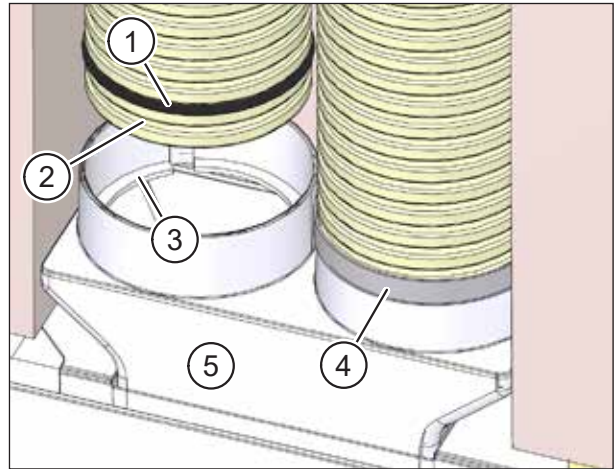

Fig. 28: Fixing a flexible pipe connection with sealing tape
- ▶ Insert the sealing rings (item 1 in Fig. 28) into the second groove on the flexible pipe. These are available as accessories M-WRG-FR-DR75 (part no. 5056-41/75) or M-WRG-FR-DR63 (part no. 5056-41/63) for the corresponding diameters.
- ▶ Insert the flexible pipes into the openings in the flexible pipe adapter (item 5 in Fig. 28). Make sure that the first groove on the flexible pipe (item 2 in Fig. 28) engages with the locking ring (item 3 in Fig. 28) on the flexible pipe adapter.
- ▶ Recommendation: Seal the join with a layer of sealing tape 30 mm wide (item 4 in Fig. 28).